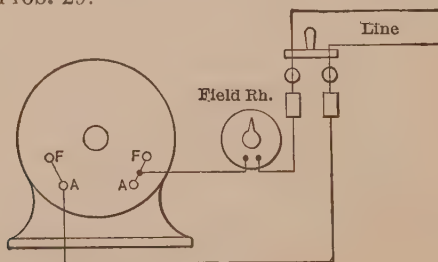

FIG. 159.
**Prob. 32.** Is the shunt generator in Fig. 159 connected to the line correctly? If not, make the proper connections.